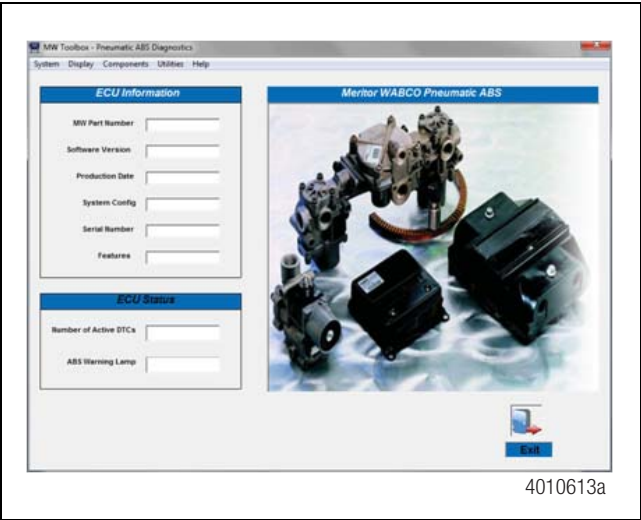
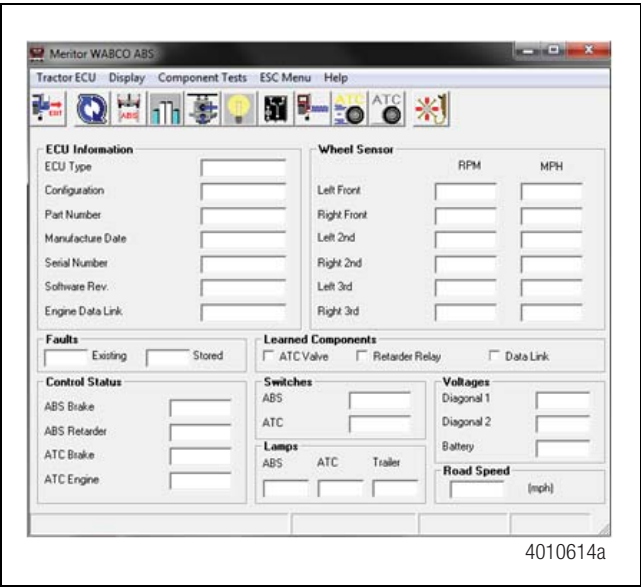

Figure 3.7
Figure 3.8
5. In the **Main Menu**, select **J1939 Tractor ABS** or **J1708 TOOLBOX™**, then **Tractor ABS**. The **ABS Main Screen** will appear. Figure 3.7 and Figure 3.8.